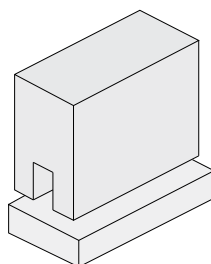

Figure 1
- Step 4** Fit a suitable cutter to the router and set guide. Machine a 13mm wide by 24mm deep groove along the bottom of the door. See Figure 1.